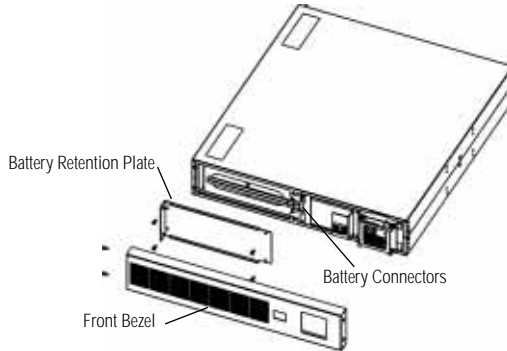

Fig. 9: Replacing Battery Pack
3. Once the bezel is removed, remove the four retaining screws from the battery retention plate located on the left (bottom) side of the unit (fig. 9).